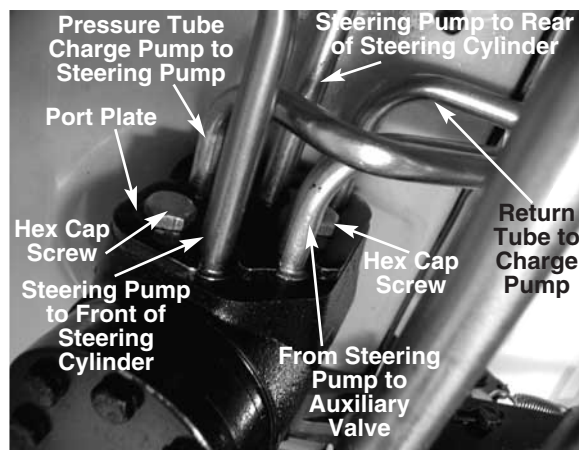

FIGURE 2.
3. Remove both of the hex cap screws from the power steering pump port plate using a 13mm wrench. See figure 2.
4. Remove the hydraulic pressure tube end from the hydraulic steering pump. Charge pump to steering pump. See figure 2.
8. Reinstall the power steering pump port plate. See figure 2.